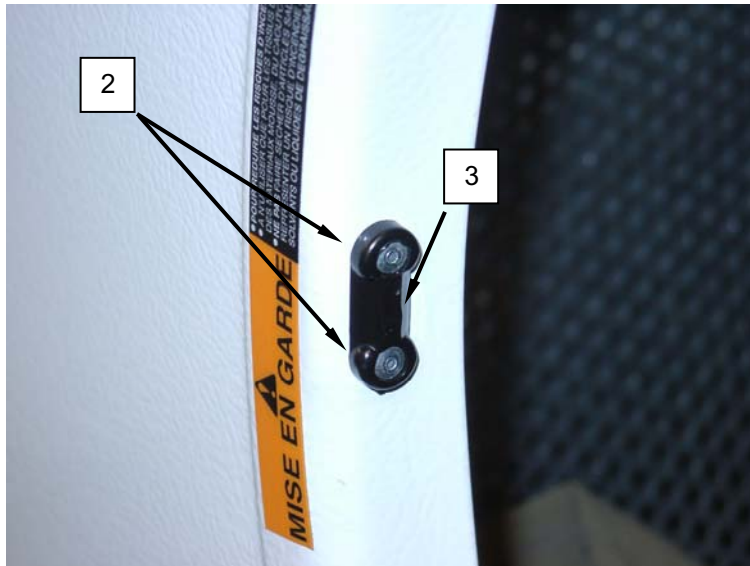

Figure 2. Replace the Dryer Loading Door Catch Assembly.
2. Drill out rivets (**Figure 2, Item 2**) and remove strike (**Figure 2, Item 3**).
3. Install replacement strike (**Figure 2, Item 3**), and retain with rivets (**Figure 2, Item 2**).